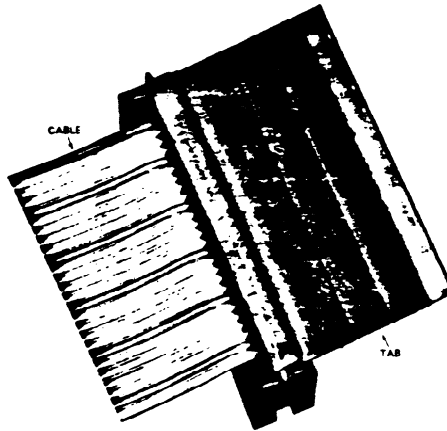
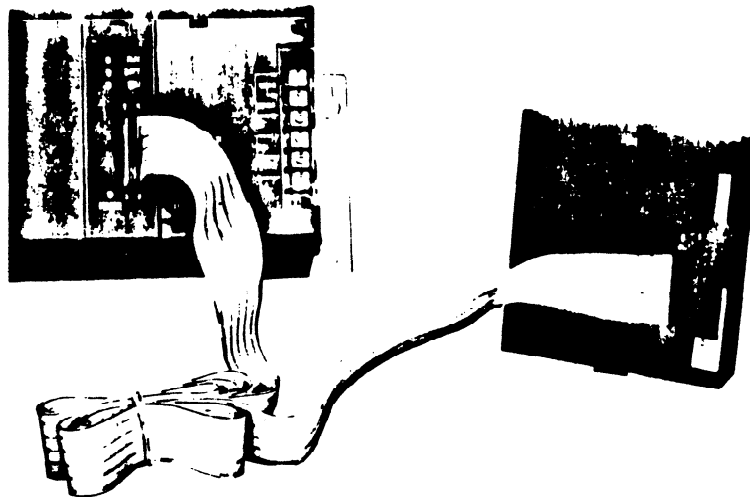

Figure 3-12. Pull Tab on Programmer Cable
Figure 3-13. Installation of Programmer Cable
37. If an extender cable is used with the programmer, it should be installed next or when required. One end of the cable has a push tab (see figure 3-12). This end is connected to the programmer (see figure 3-13). The other end is connected to the 26-pin connector on the CPU. Both ends are keyed for proper installation. The red edge of the ribbon cable is installed up at both ends.